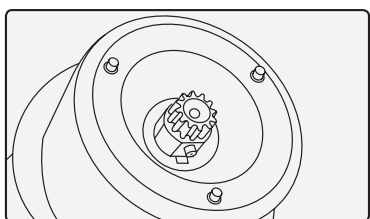

Figure 20
2. Turn the jug, securing the blades in the fitting with your hand (Figure 20).